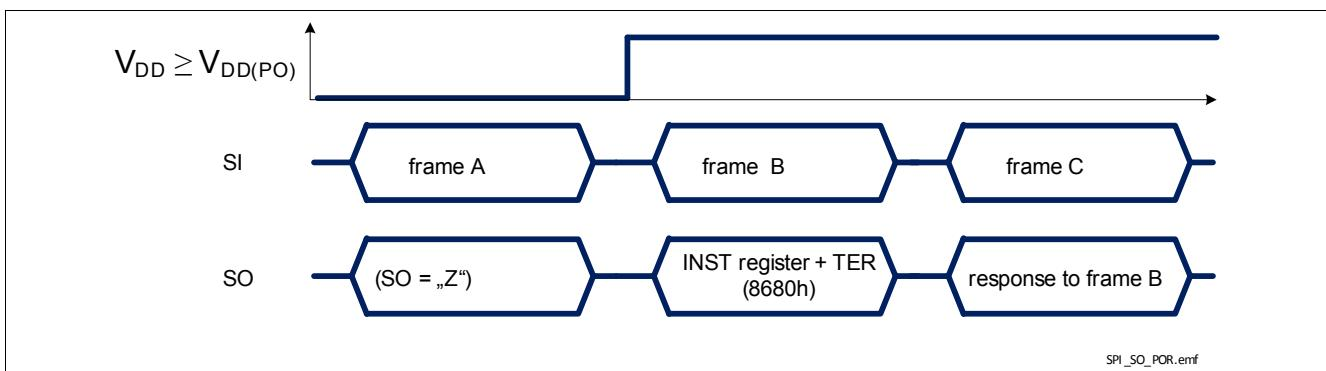

Figure 30 TLE75008-EMD response after coming out of Power-On reset at  $V_{DD}$
- when TLE75008-EMD logic supply comes out of Power-On reset condition or after a Software Reset, as shown in Figure 30